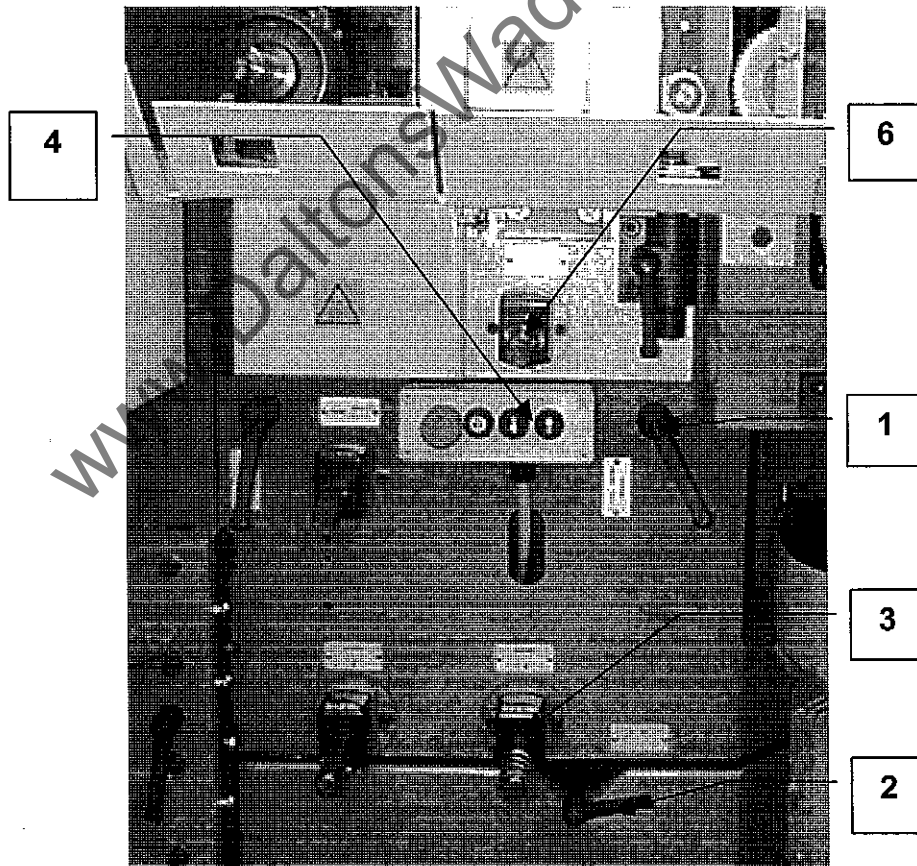

Figure 5.5
5.5 Setting Top Head (Figure 5.5)
Horizontal Setting**Figure 5.5**